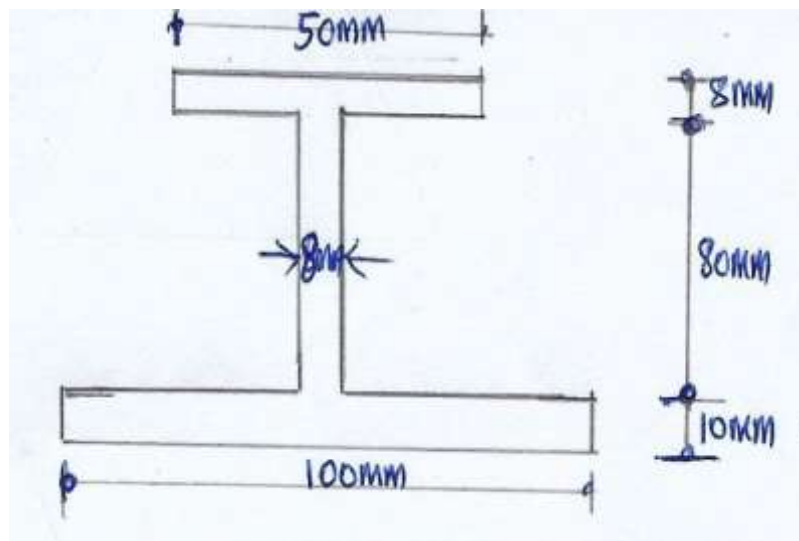

Fig.8
8. Compute the moment of inertia of the section shown in about its centroidal axis, also find polar moment of inertia. Fig. 8